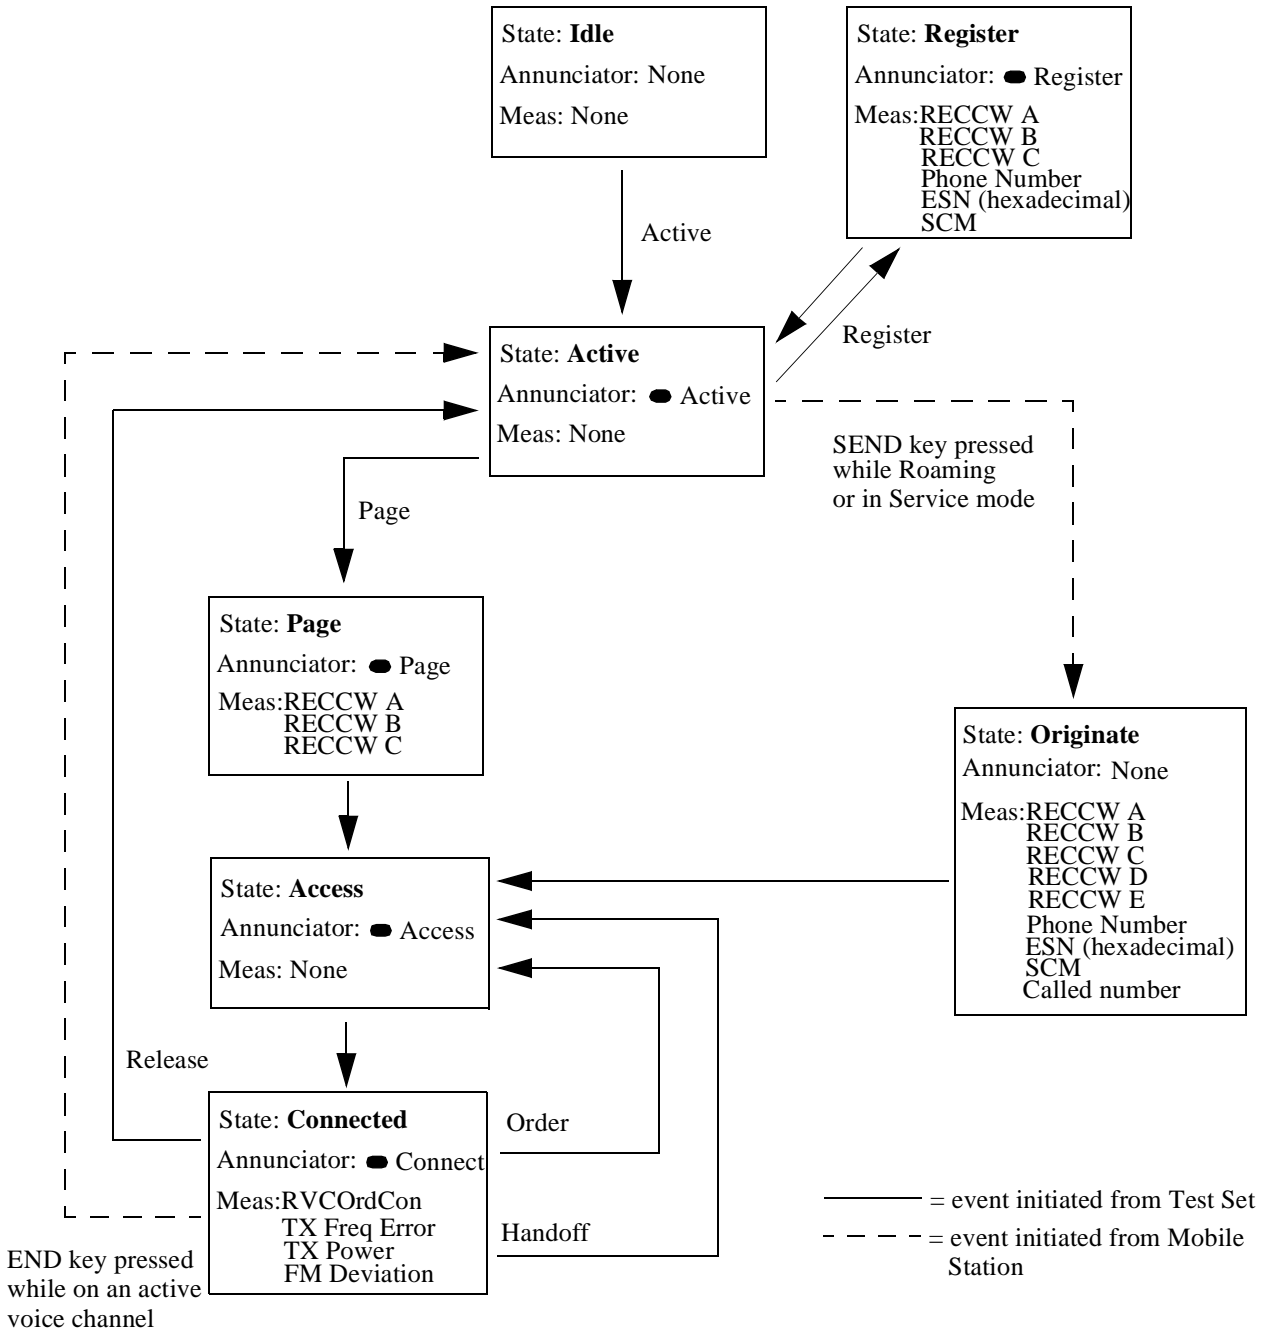

Figure 13 Call Processing State Diagram
**Figure 13, "Call Processing State Diagram," on page 112** illustrates the primary call processing functions available in the Call Processing Subsystem. Each box represents a call processing state and includes the measurement information available while in that state. Each box also includes the name of the annunciator on the call processing screen that will be lit while in that call processing state. Events which trigger transitions between the various states are shown on the diagram. Events which are initiated from the Test Set are shown in solid lines and events which are initiated from the mobile station are shown in dashed lines.